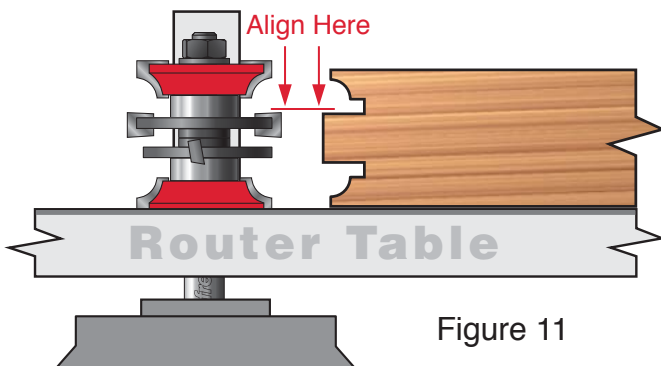

Figure 11
- The top of the groove cutter and the top of the tongue on the rail end cut should be perfectly aligned as shown in Figure 11.